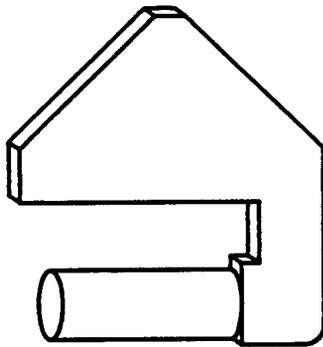

Figure 72—B Filler Insert (AT-8807)
8.06 Filler inserts (Figure 72 and 73) are used to fill guard hinge slots on terminal strips not equipped